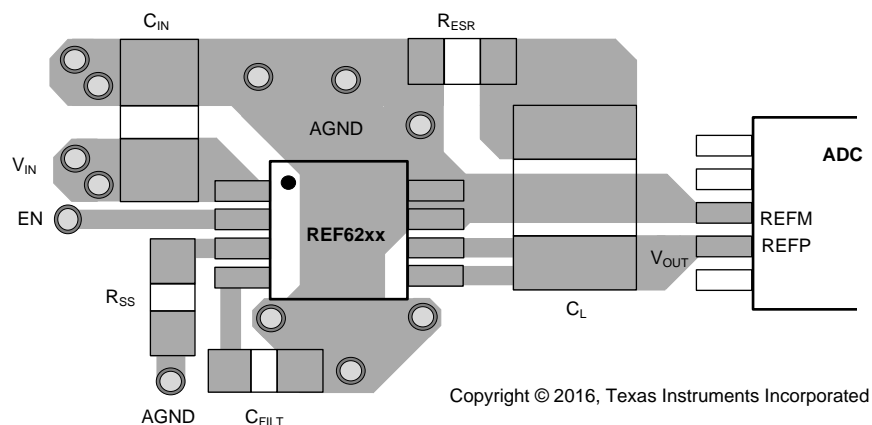

Figure 61. Layout Example
Figure 61 illustrates an example of a PCB layout for a data-acquisition system using the REF62xx. Some key considerations are:
- Run two separate traces between VOUT_F, VOUT_S and the output capacitor, as shown in Figure 61.
- Short the GND_F and GND_S pins with a solid plane, and extend this plane to connect to the output capacitor C_L , as shown in Figure 61.